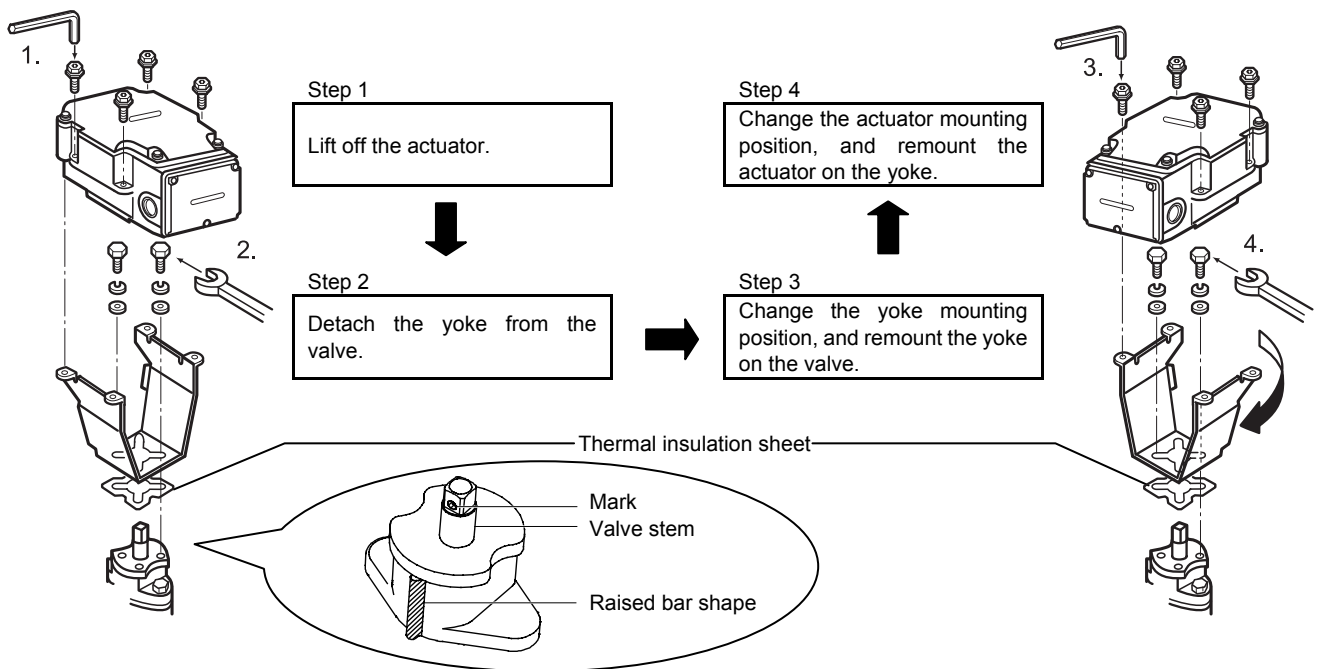

Figure 13. Changing the actuator mounting position
<Step 1 in Fig. 13>
- 2) Remove the screws connecting the yoke and the valve. <Step 2 in Fig. 13>
- 3) Change the facing direction of the yoke. The yoke and actuator can be horizontally rotated every 90° (0°/90°/180°/270° from the factory preset position) to mount onto the valve. <Step 3 in Fig. 13>
- 5) Before fixing the yoke to the valve with the screws, check that the actuator engages correctly with the valve stem (at the new mounting position). Check that the pointer of the actuator indicates 100 % position as well. Then, fix the yoke to the valve with bolts. <Step 3 in Fig. 13>
<Step 4 in Fig. 13>